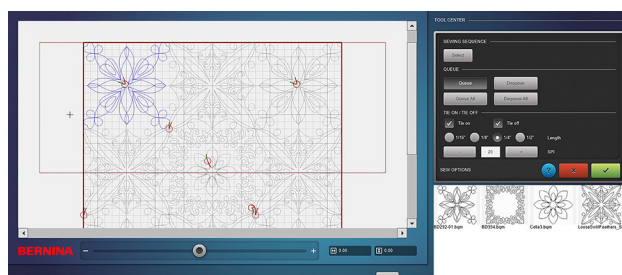

Fig. 83
- Select Queue and tap only this design on the screen. The queued design is blue. This should be the only blue design on the screen (Fig. 83).